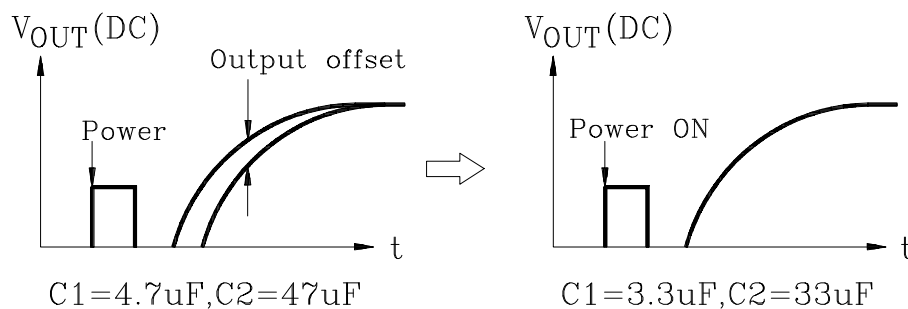

Fig.4
Having Pre-Amp (Amp 1) mounted on the primary stage, this IC contains the circuit for making the Amp 1 input voltage and the NF terminal voltage equipotential. Therefore, the offset voltage produced at the input stage is suppressed to prevent the pop noise at VCC→ON. The capacity values of the input and NF condenser (C1 and C2) shall be set according to the gain to be used(Fig 4).
Through setting ① pin (mute terminal) at about 1V or less, muting becomes possible. The interval circuit of IC is shown in fig.4.